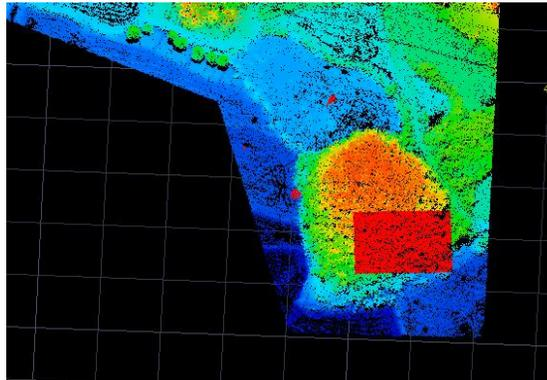

Figure 3-107 Rectangle Selection
- (1) Click the menu <Tools> → <Rectangle Selection>.
- (2) Click the left mouse button to draw a line, and then click the left mouse button again to draw a rectangular box, the points within the rectangle will be in the selected state and change the color (Figure 3-107).
- (3) The selected state of the color of the cloud of points can be set up in the <Documents> → <System Settings> → <Selected Points Color>.